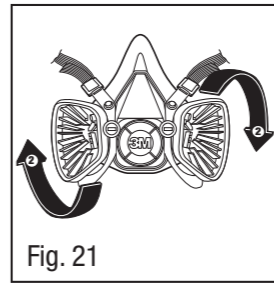

Fig. 21
- Turn adapter 1/4 turn clockwise to stop. To remove adapter, turn 1/4 turn counterclockwise (Fig. 21).